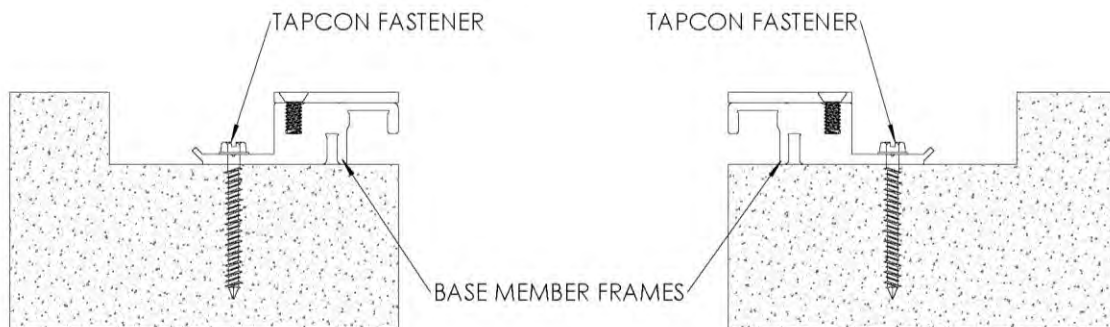

FIGURE 1
1. Pour floors with blockouts as shown on **Figure 1**. Blockout should be a minimum of 2" wider than the exposed cover width by the specified depth.
1. Position base member frames in blockout per shop drawings. Using the frame as a template, mark and drill 5/32" holes for Tapcon fasteners. Install base member frames to the blockout opening with fasteners, making sure not to over tighten. **See Figure 1**